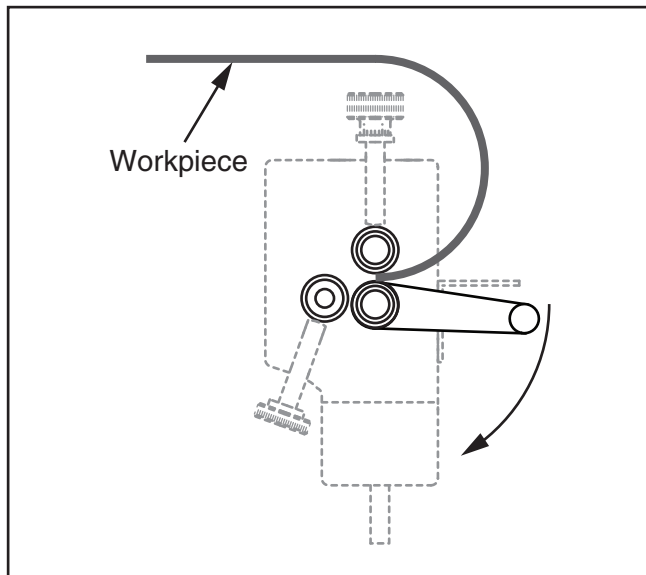

Figure 17. Re-inserting workpiece to complete the cylinder.
6. Rotate the workpiece 180°, then insert the curved end back into the slip roll, as illustrated in **Figure 17**.